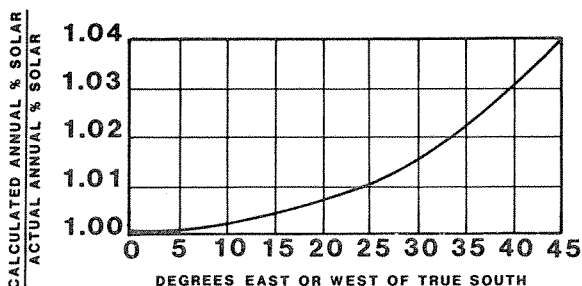
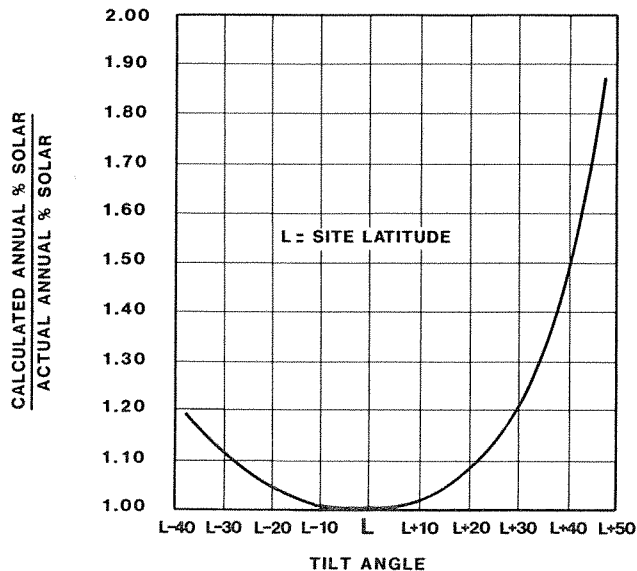

Figure 2.1
Figure 2.2
- Varying collector orientation or tilt from these ideals will result in lower system performance. To get actual solar contribution, divide the annual percent solar from table 2.1 by the appropriate number from figure 2.1 and/or figure 2.2. If the hot water set temperature is above 125F system performance will decrease. However, if it is set below 125F system performance will increase.